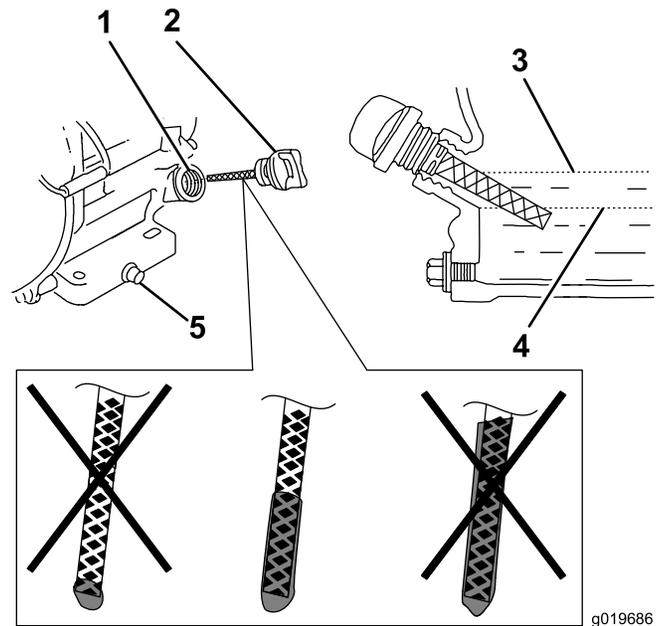

Figure 11
5. Remove the dipstick again and look at the end (Figure 11).